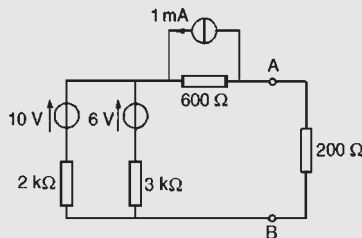
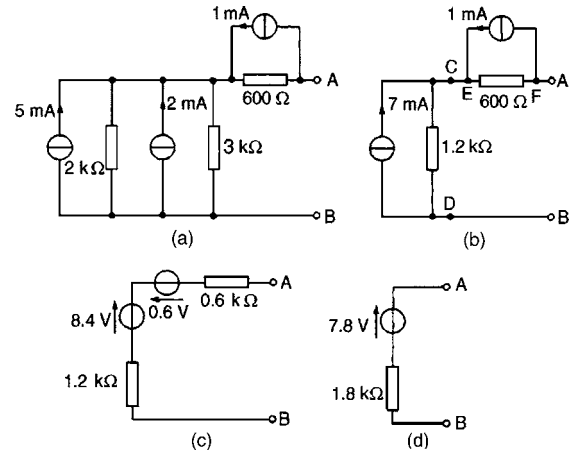

Figure 13.74
Figure 13.75
**Problem 21.** Determine by successive conversions between Thévenin and Norton equivalent networks a Thévenin equivalent circuit for terminals AB of Fig. 13.74. Hence determine the current flowing in the  $200\ \Omega$  resistance.
Thus the network of Fig. 13.74 converts to Fig. 13.75(a). Combining the 5mA and 2mA current sources gives the equivalent network of Fig. 13.75(b) where the short-circuit current for the original two branches considered is 7mA and the resistance is  $(2 \times 3)/(2 + 3) = 1.2\text{ k}\Omega$
Both of the Norton equivalent networks shown in Fig. 13.75(b) may be converted to Thévenin equivalent circuits. The open-circuit voltage across CD is  $(7 \times 10^{-3})(1.2 \times 10^3) = 8.4\text{ V}$  and the resistance 'looking-in' at CD is  $1.2\text{ k}\Omega$ . The open-circuit voltage across EF is  $(1 \times 10^{-3})(600) = 0.6\text{ V}$  and the resistance 'looking-in' at EF is  $0.6\text{ k}\Omega$ . Thus Fig. 13.75(b) converts to Fig. 13.75(c). Combining the two Thévenin circuits gives  $E = 8.4 - 0.6 = 7.8\text{ V}$  and the resistance  $r = (1.2 + 0.6)\text{ k}\Omega = 1.8\text{ k}\Omega$
Thus the Thévenin equivalent circuit for terminals AB of Fig. 13.74 is as shown in Fig. 13.75(d)